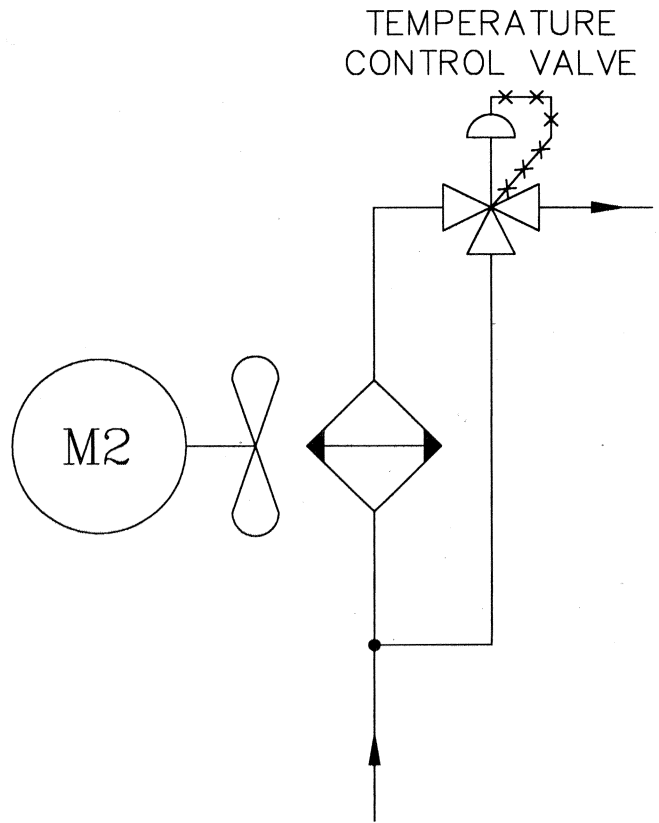

Figure 9. Air to Oil Cooler with Mixing Action Temperature Control Valve.
• For installations where ambient conditions fall below 60°F, the addition of a temperature control valve is recommended. This valve should be selected as a mixing type rather than the bypass type (Figure 9).
A thermostatic bypass valve applied in a mixing application mode with an air to oil heat exchanger is shown in Figure 9.